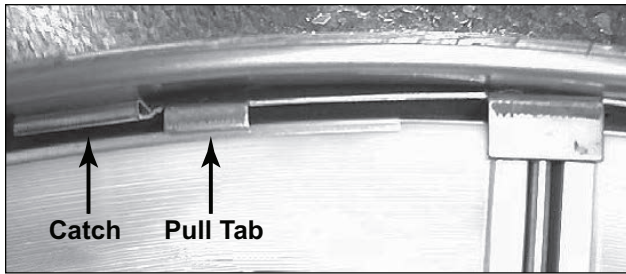

Fig. 48 — Segment Retaining Brackets
5. Unlock and open the segment retaining brackets on both sides of the selected segment opening. See Fig. 48.
10. Close and latch segment retaining brackets to the position shown in Fig. 48. Make certain the retaining bracket is fully engaged under the catch.